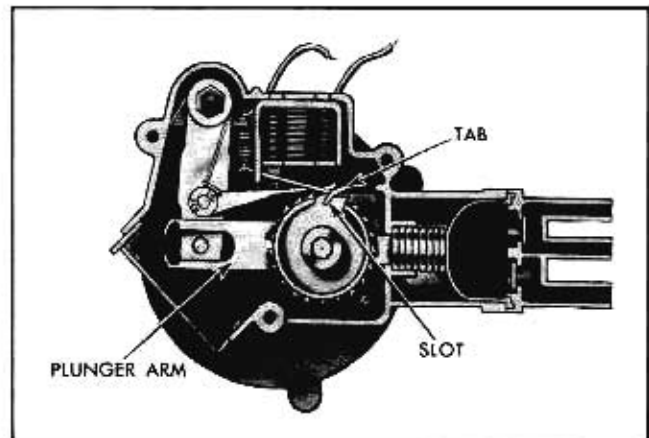

Fig. 11-63 Pump Tab
When the ratchet wheel has been turned through 360° or 21 teeth, two simultaneous functions occur as the wash cycle is completed. (1) Relay armature tab drops into the ratchet wheel slot allowing the ratchet arm to enter the armature opening preventing further ratchet wheel rotation (Fig. 11-63) and (2) the rat-